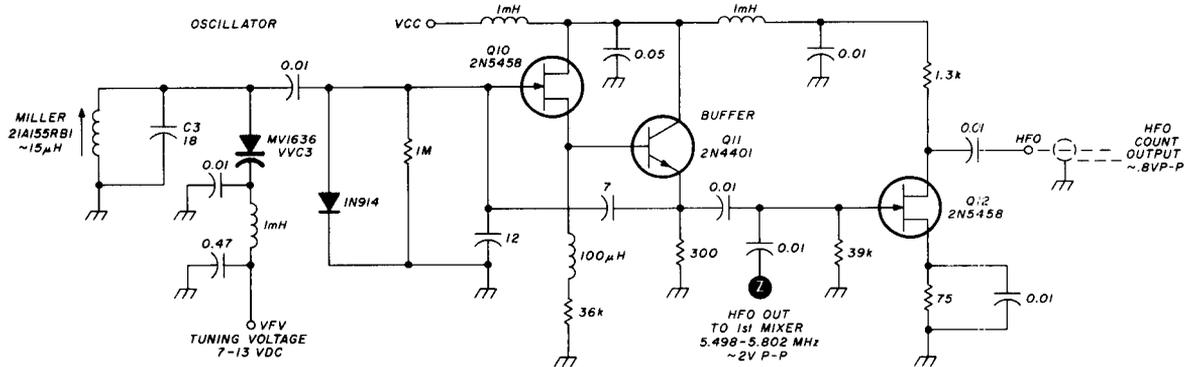

fig. 7. High-frequency-oscillator schematic.
5. The HFO V_{FV} fine band-edge voltage levels should be set as shown in the schematic. With the tuning potentiometer set at the indicated levels, or using an external supply, apply ≈ 11 volts to VVC3 cathode. With V_{CC} applied, adjust L3 slug until a 5.65-MHz signal is available on Q2 gate 2. Adjust the source swamping resistor (30k) for the output amplitude shown in **fig. 7**. Traverse the tuning range and alter-